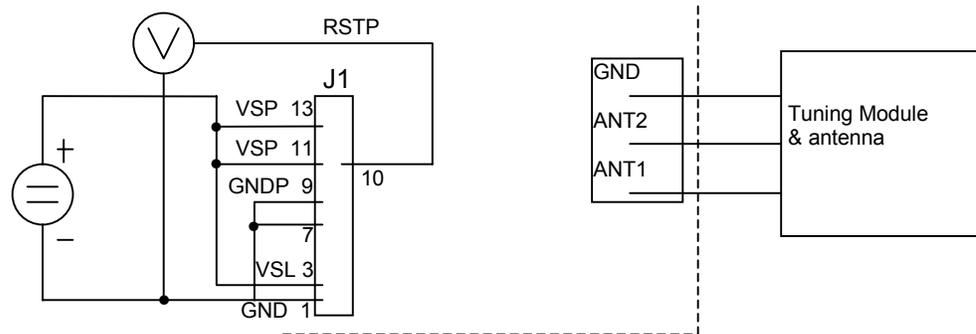

Figure 12: Noise Testing Configuration
The test pin RSTP at connector J1 pin 10 carries an analog output voltage indicating the receive signal strength. This voltage should be measured in combination with the antenna RI-ANT-G02. The necessary set-up for this test is shown in Figure 12. This configuration operates the RA-RFM from a battery and has no interface line connected. As the transmitter is switched off in this configuration, a normal battery may be used. A low noise level is indicated by an RSTP voltage of less than 1.0 VDC when using antenna RI-ANT-G02.
Try the configuration shown in Figure 12. If this configuration shows bad noise conditions (RSTP voltage more than approximately 1.0 VDC) then the problem is radiated noise.
1. When the configuration of Figure 12 shows good noise conditions (RSTP voltage less than 1.0 VDC) then the problem is conducted noise.